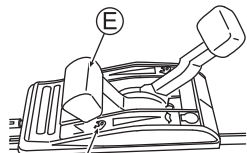

Fig. 17
2. Set the throttle lever (E) to "STOP" to start mowing. (See Fig. 17)